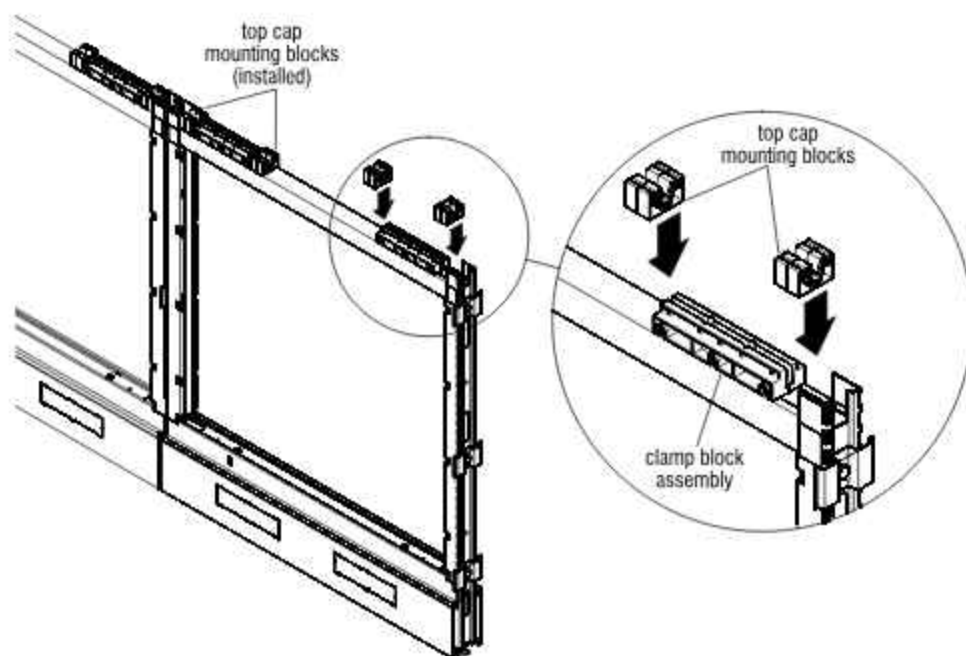

Figure 3 - Top Cap Mounting Block Install
6. Position a top cap mounting block at each end of the clamp block assembly at both clamp block assembly locations on top of the panel frame (Figure 3).